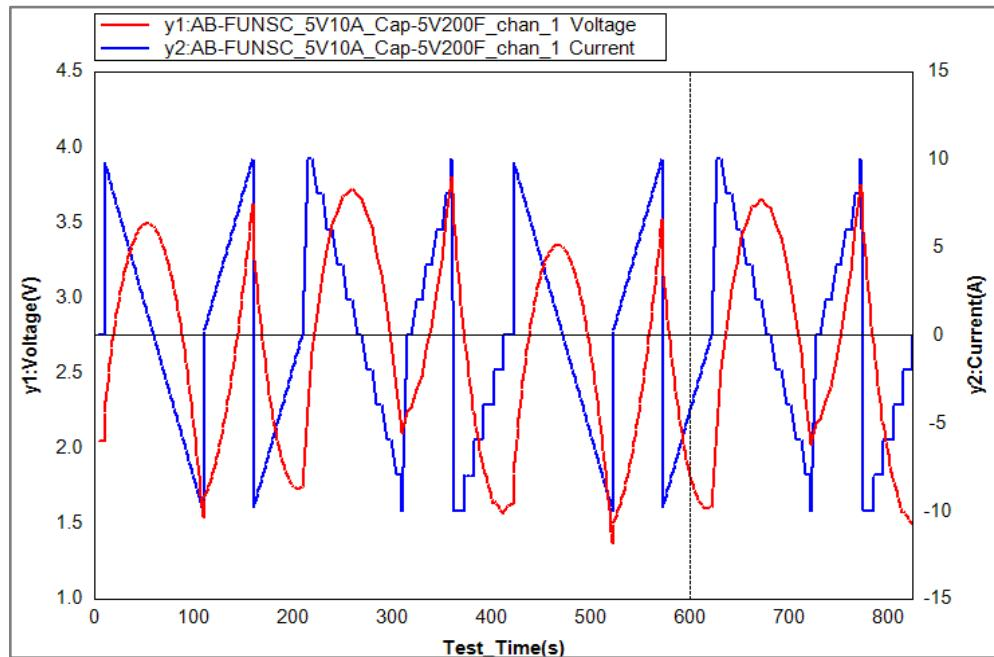

Figure 2-8 Function Test Current and Voltage Diagram, AB-FUNSC
- 4) The test result data should be similar to Figure 2-8 below, although different systems will have different values. If the data differs from this graph, please save a copy of the graph and contact Arbin Customer Support.